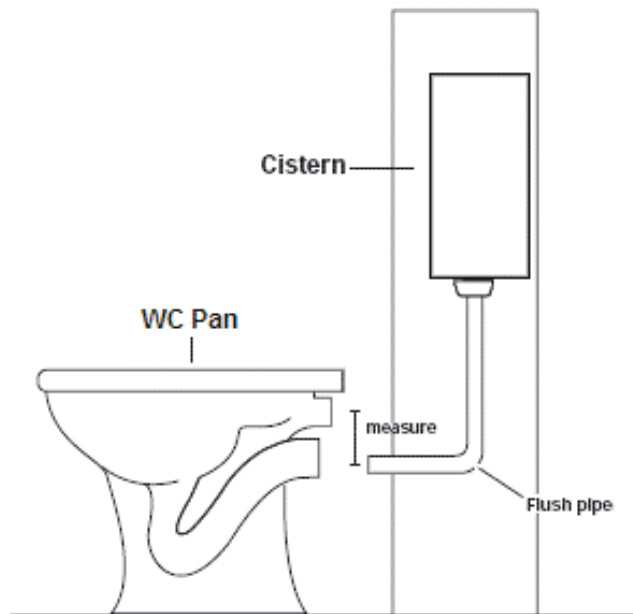

Fig. 6
5. Offer the WC pan up to the flush pipe (F). Measure the vertical distance between the centre of the flush pipe and the centre of the water inlet in the rear of the WC pan. Make a note of this measurement. Remove the WC pan from its position in the room. (See **Fig. 6**).